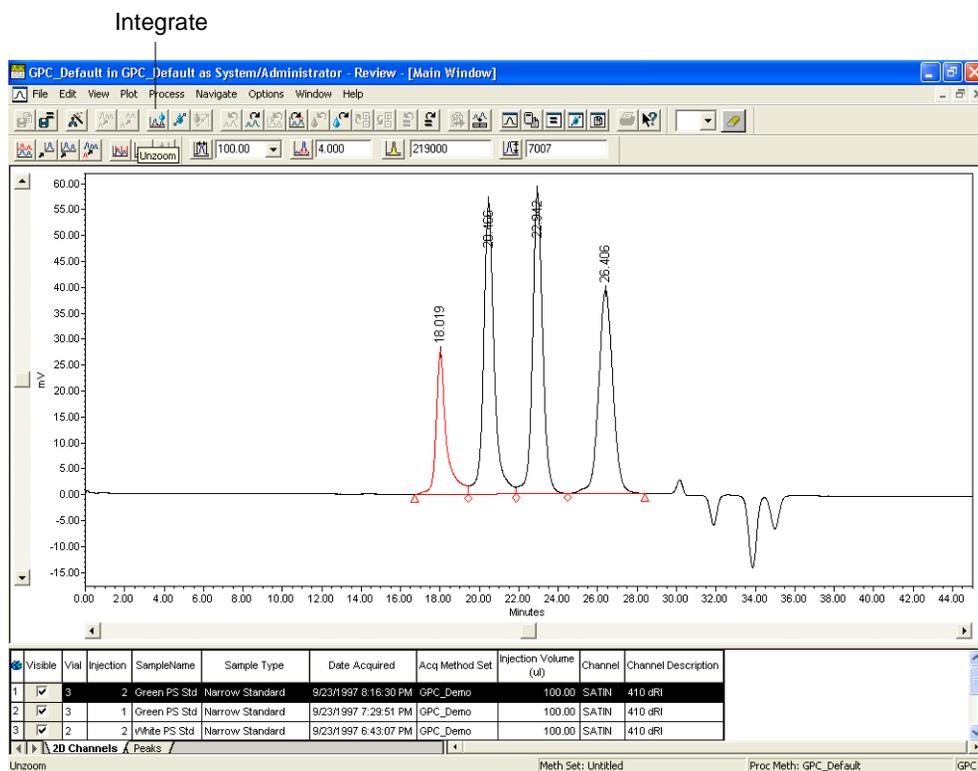

Figure 2-18 Processing Method Applied to First Narrow Standard
1. From Review, click **Integrate**. The processing parameters stored with your processing method are applied to the first narrow standard channel. The integrated peaks appear on the chromatogram (Figure 2-18).
2. Check that only the standard peaks are integrated and that the peaks are properly integrated (Figure 2-18).